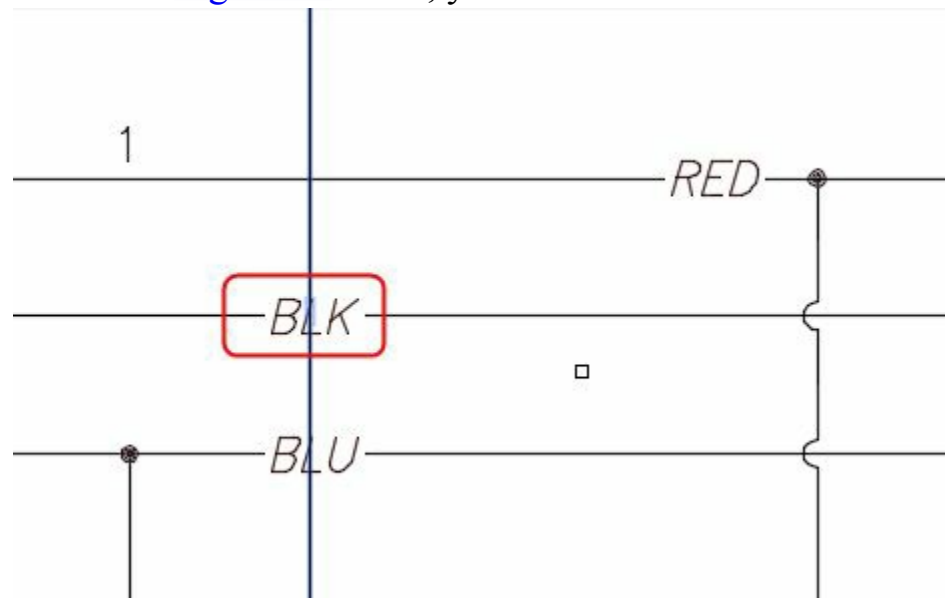

Figure-29. Reference line for selected component
- Select the component. The reference line will be created from the center of the selected component; refer to Figure-29. Also, you are asked to select the to be aligned components.